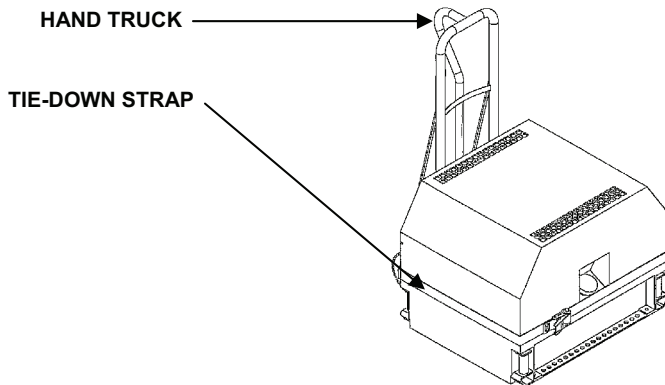

Figure 5. Loading Generator Set on Hand Truck.
8. Load the 3kW TQG set on the hand truck. Make sure the fuel cap is loaded forward to prevent spillage. Secure with a tie down strap. See Figure 5.